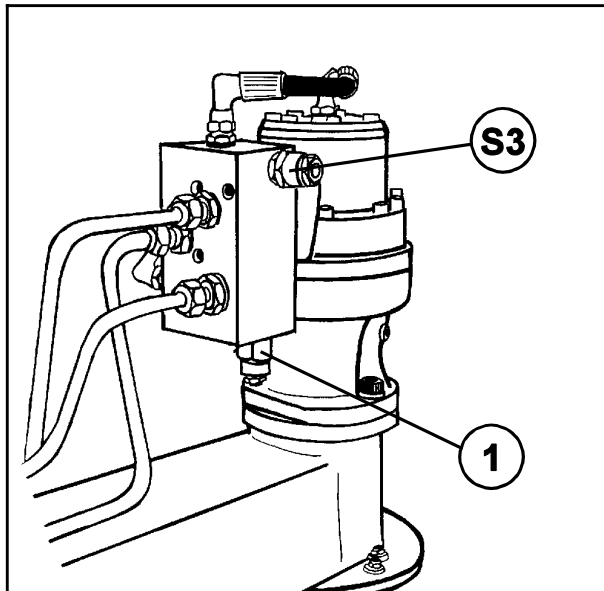

Fig. 13-2
- c) **Safety valve on the minus side. (S3, fig.13-2).**
- d) **Holding valve. (Pos. 1, fig. 13-2).**
- b) Check valve 1. (See fig. 13-2). Screw all the way in and test. Adjust to required power.